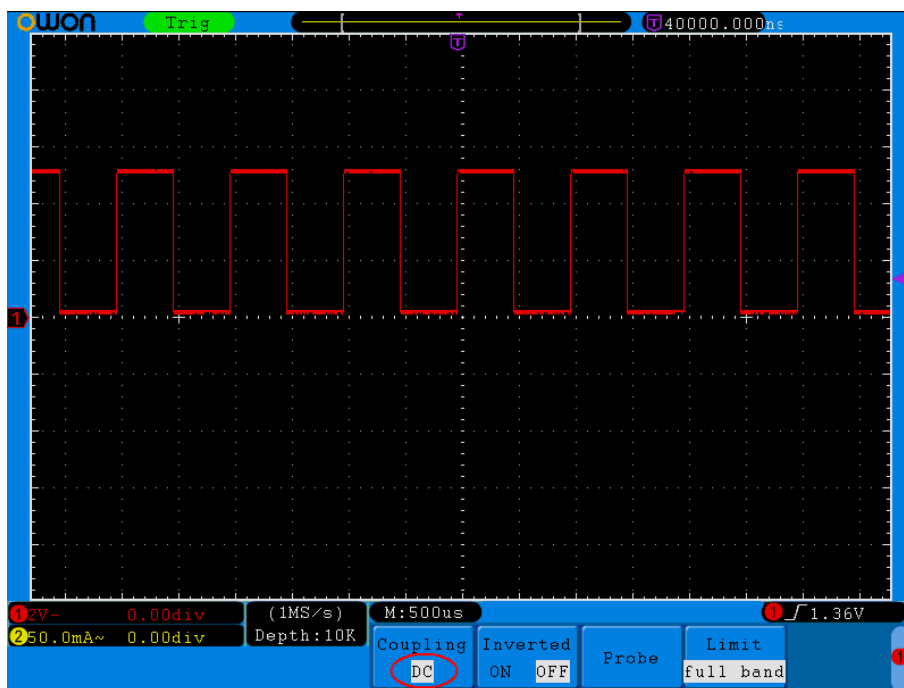

Figure 5-2 DC Coupling Oscillogram
- (1) Press the **CH1 MENU** button to show the CH1 SETUP menu.
- (2) Press the **H1** button, the Coupling menu will display at the screen.
- (3) Press the **F1** button to select the Coupling item as "**DC**". Both DC and AC components of the signal are passed. The waveforms are shown as *Figure 5-2*.